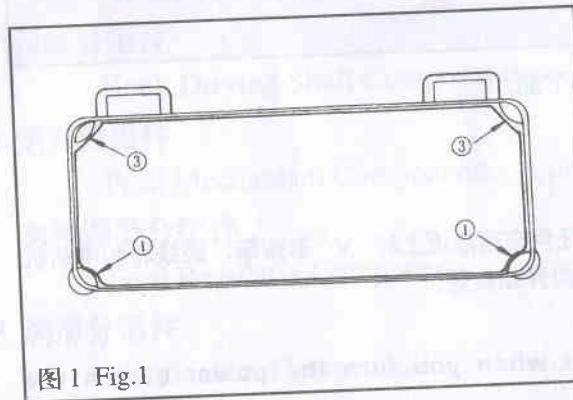
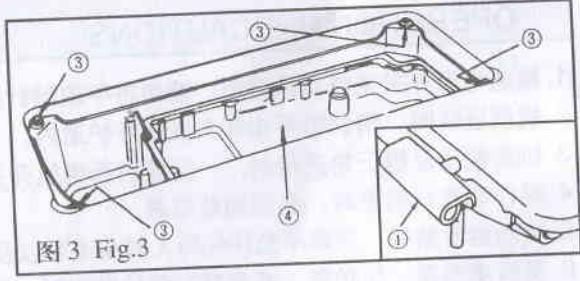
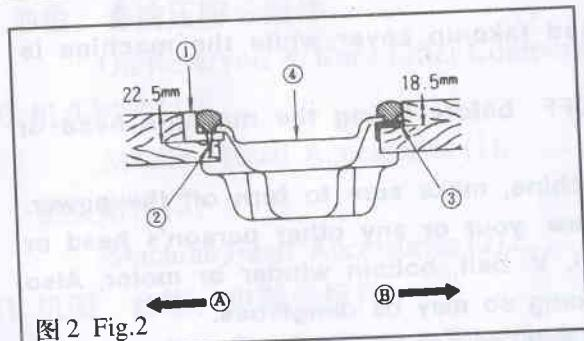
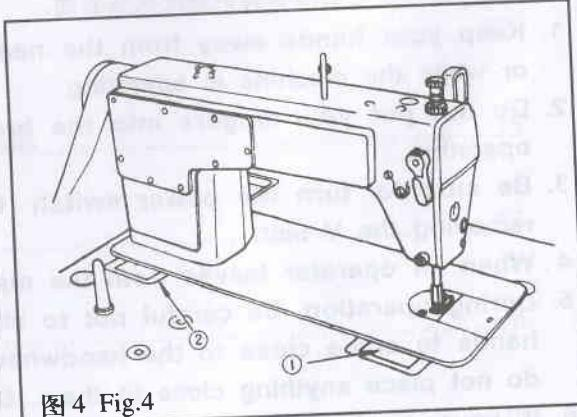

图1 Fig.1
图3 Fig.3
图2 Fig.2
图4 Fig.4
## 1. 机器的安装(图1、图2、图3、图4)
## 1. INSTALLATION (Fig.1, Fig.2, Fig.3, Fig.4)
- 2) 如图所示, 将两只油盘支座①用油盘座钉②固定在A一边(朝操作者一边), 将两只油盘座垫③用油盘座钉②固定在B一边(用机头连接钩接合一边), 最后把油盘④放在其上。(图1、图2)
- 3) 将机头连接钩①放入底板孔内, 与台板的机头连接钩座②相嵌合, 再将机头放到四只角的机头座垫③上。(图3、图4)
- 2) Fix two rubber seats ① on side A (operator's side) using nails ② as illustrated above. Fix two cushion seats ③ on side B (hinged side) using nails ② . Then place oil pan ④ on the fixed seats. (Fig.1, Fig.2)
- 3) Fit hinge ① into the opening in the machine bed, and fit the machine head to table rubber hinge ② before placing the machine head on cushions ③ on the four corners. (Fig.3, Fig.4)